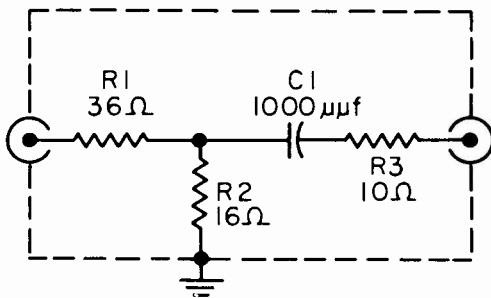

FIG. 2 I-F INJECTION NETWORK
6. Inject signals from a properly terminated AM signal generator or sweep generator through the network in Figure 2 to the I-F injection jack*.